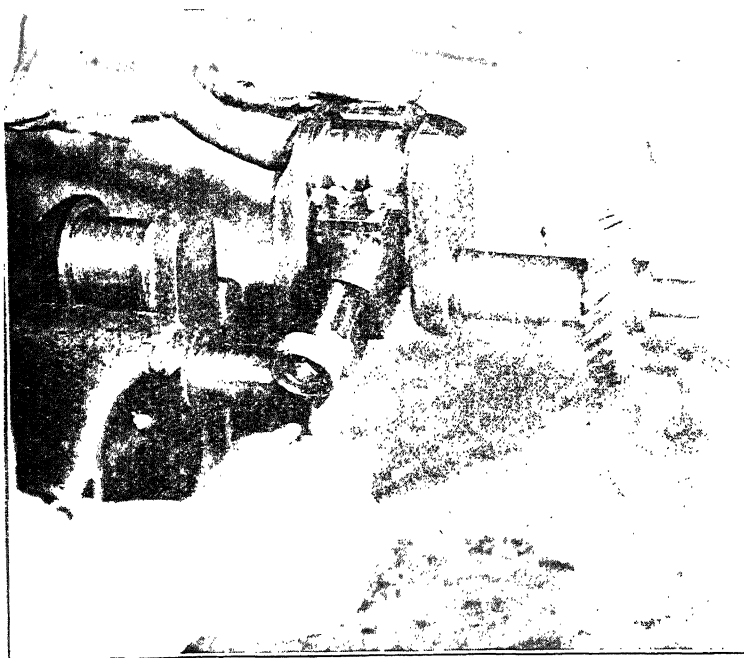
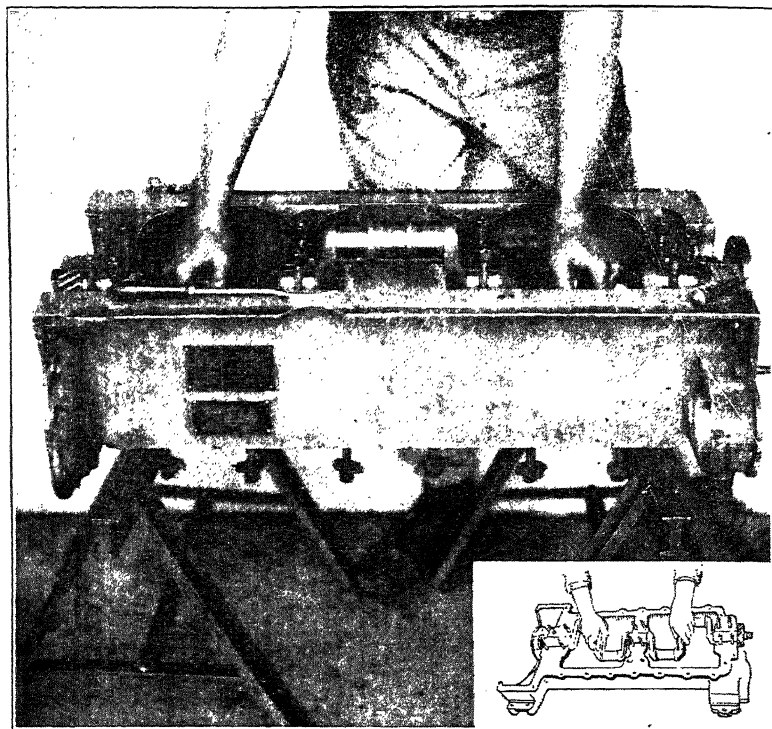
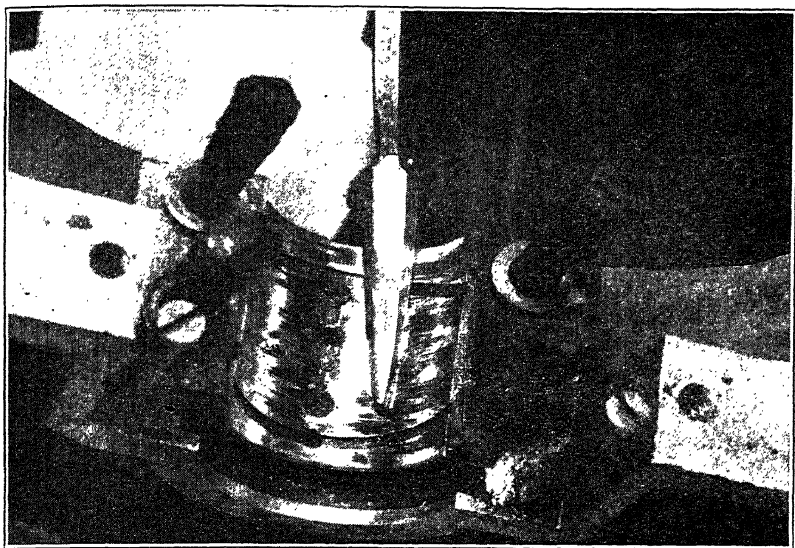

Fig. 22. Using Crank-Pin Turning Tool to Round Up Worn Crank Pins
Fig. 24. Getting an Impression When Fitting Crankshaft to Main Bearings by the Scraping Process
Fig. 25. Close-Up View of a Rear Main-Bearing Upper Half, Showing the Impression Made in Fig. 23
(see Fig. 24). In other cases the mechanic uses wood horses or even heavy wood blocks. The main point, when doing bearing work, is to have the main bearings at a level that is convenient for speedy work.
**Reconditioning Crank Pins and Main-Bearing Journals.** Crankshafts, which have a variation exceeding .002 inch in the roundness of the crank pins or main-bearing journals, cannot be fitted to the bearing so as to secure satisfactory service. Fig. 22 illustrates the use of a hand-turning lathe or tool for reconditioning crank pins and main-bearing journals. This device may be used for crankshafts of varying diameters and for crank pins and main-bearing journals of varying lengths. All that is required is to adjust the opening of the throat on the device and select a cutting blade of proper width. When in use, the hand screw is used to turn the cutting blade in against the metal of the crankshaft. The device is then rotated around the crank pin or main-bearing journal by hand.
A careful study of Fig. 22 will show that the crank pin being reconditioned was considerably out-of-round. It will be noted that there are two white spots or streaks appearing on the pin where the blade has removed metal. These spots are not even. The dark parts illustrate metal which is still low. By using one of these devices, the crank pins are re-turned until they are true. If the blade is kept in good condition, the job is smooth. If there are minor
The crankshaft being fitted by the mechanic in Fig. 24 has been reconditioned by the method illustrated in Fig. 22. It will be noted that the crank pins are clean and bright.
In order to secure an impression on the bearing metal, the mechanic uses a very small quantity of bearing blue. This bearing blue is distributed evenly over the surface of the main-bearing journals. Avoid using too much blue. The crankshaft is then placed in position, as shown in Fig. 24, and rotated several times
under pressure, from the hands of the mechanic. The crankshaft is then lifted out and laid to the side. An impression similar to that shown in Fig. 25 will be noted. The mechanics very frequently protect the ends of the bearing studs by means of tape. This feature is also illustrated in Fig. 25.
When securing an impression such as that illustrated in Figs. 25 and 26, it is necessary to lay the crankshaft in the main bearings and rotate it forth and back by hand. This process is illustrated in Fig. 24, both in the photograph and in the inset.
Fig. 25 illustrates the bearing scraper in position for cutting off the high spots, as indicated by the impression. The bearing scraper is swung sidewise, giving it a swinging, scraping motion. After a little practice, it will be found possible to have the scraper cut clean and free. Avoid chattering or any motion which tends to give a notched or nicked effect.